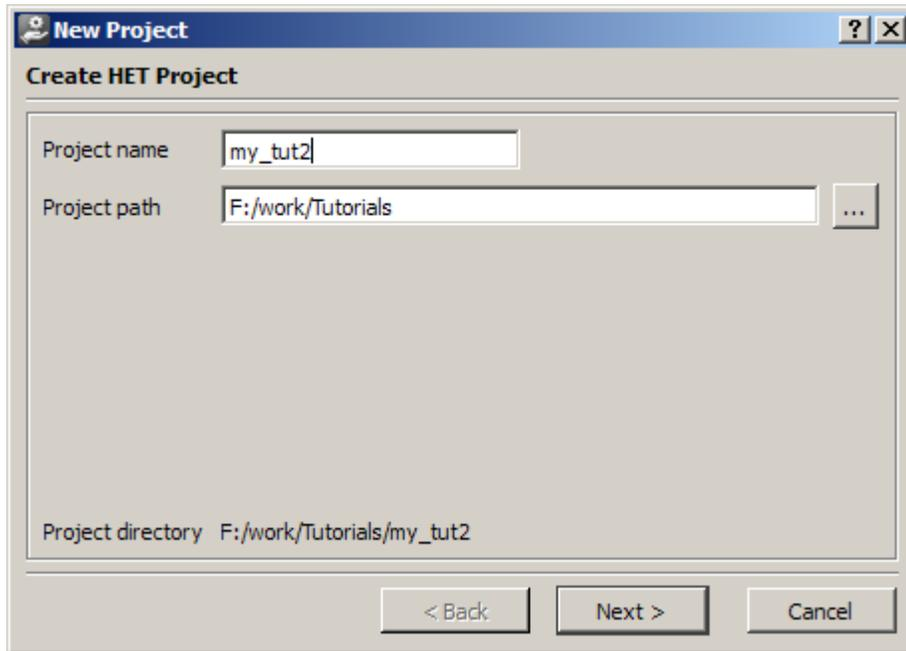

Figure 8. New Project Dialog - Initial Screen
2. Create a new project, called my_tut2. From the HET IDE file menu, select Project → New Project. When the New Project dialog appears (see Figure 8), change the project name to 'my_tut2' and make sure the project path is pointing to a folder where you can read or write.